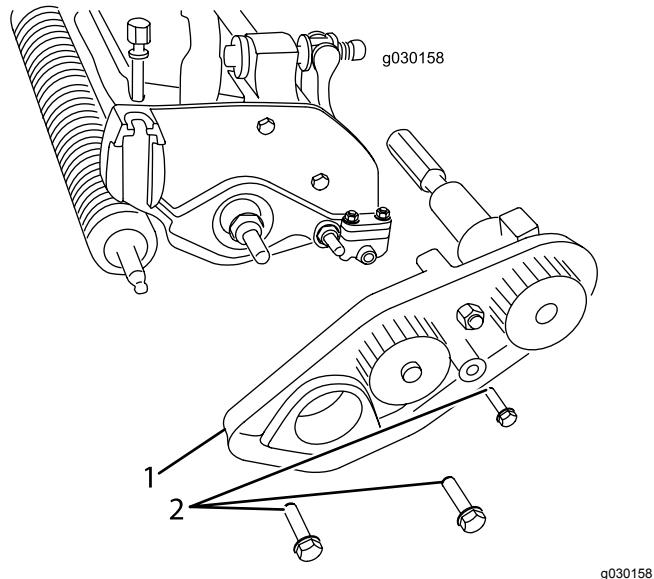

Figure 6
4. Remove the 3 bolts securing the belt-drive assembly to the cutting unit, if equipped, and remove the whole assembly (Figure 6).
- Insert the other end of the groomer shaft into the left support plate (Figure 6).
- A. Install the belt-drive assembly using the previously removed bolts, and ensure that the side plate rotates freely (Figure 6).
- A. Install the belt-drive assembly to the cutting unit using the 3 bolts that you removed previously (Figure 6).